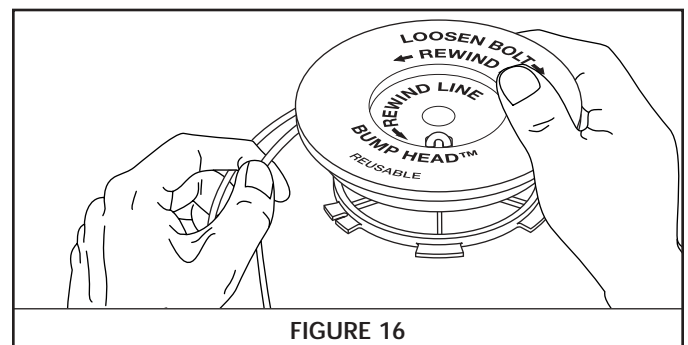

FIGURE 16
7. Wind the lines in tight even layers, onto the reel. See Figure 16. Wind the line in the direction indicated on the inner reel. Place your index finger between the two lines to stop the lines from overlapping. Do not overlap the ends of the line. Proceed to step 11.